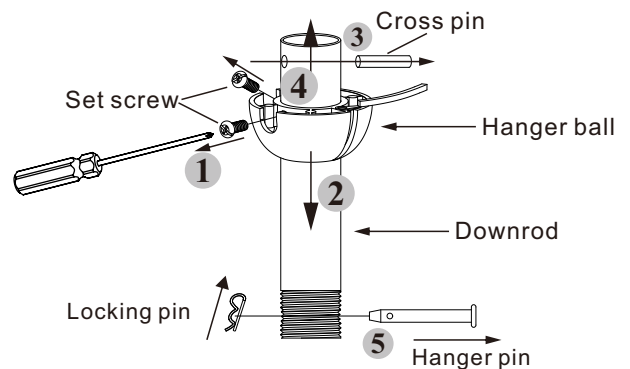

Figure 11
b. Remove the hanger pin, locking pin from the downrod assembly, and loose the set screws from the the coupling (Fig. 11)